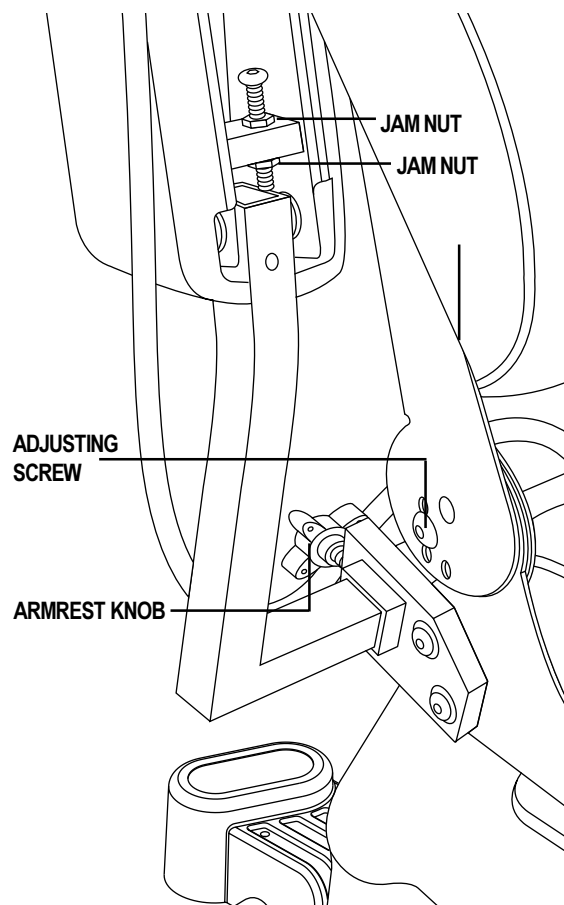

Figure 11. Seatback and Armrest Adjustments
1. Remove the adjusting screws on both seat hinges. See figure 11.
1. Locate the two armrest knobs on each side of the armrest receiver bracket. See figure 11.
2. Loosen the jam nuts. See figure 11.
4. Turn the adjusting screw clockwise to raise the front of the armrest, or turn the adjusting screw counterclockwise to lower the front of the armrest. See figure 11.